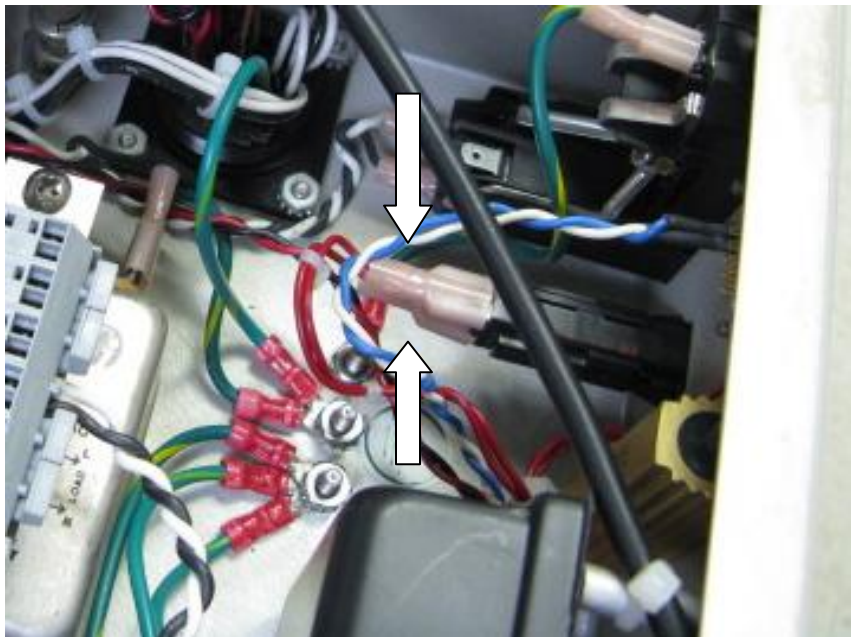

Figure 1-15.
13. There are also 2 red wires with crimp connectors that need to be re-attached to the circuit breaker on the back side of the case. It doesn't matter which wire goes up or down, just as long as they get a good connection. See figure 1-15.